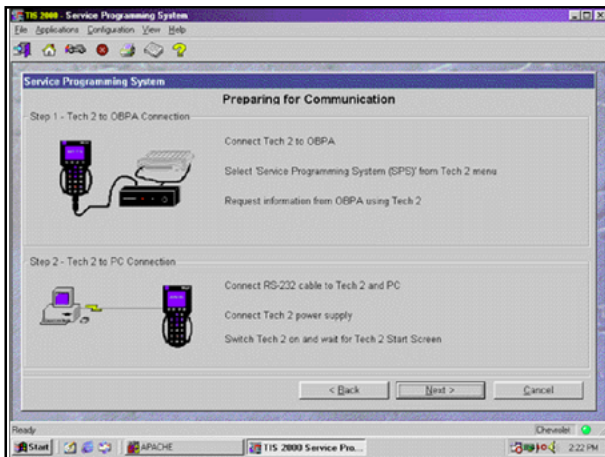
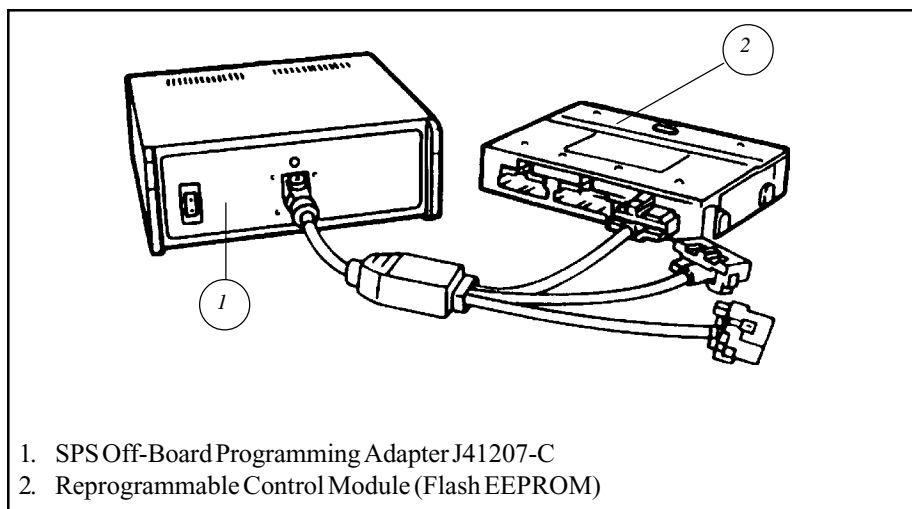

Figure I-32, Preparing for Communication
Figure I-40, OBPA Hook-Up
4. Follow the directions on the Preparing for Communication screen (Figure I-32) for connecting the control module, OBPA, and Tech 2. Be sure to use the correct connector for the control module. Refer to the chart on page I-22 for a listing of adapters and Figure I-40 for OBPA adapter hook-up.